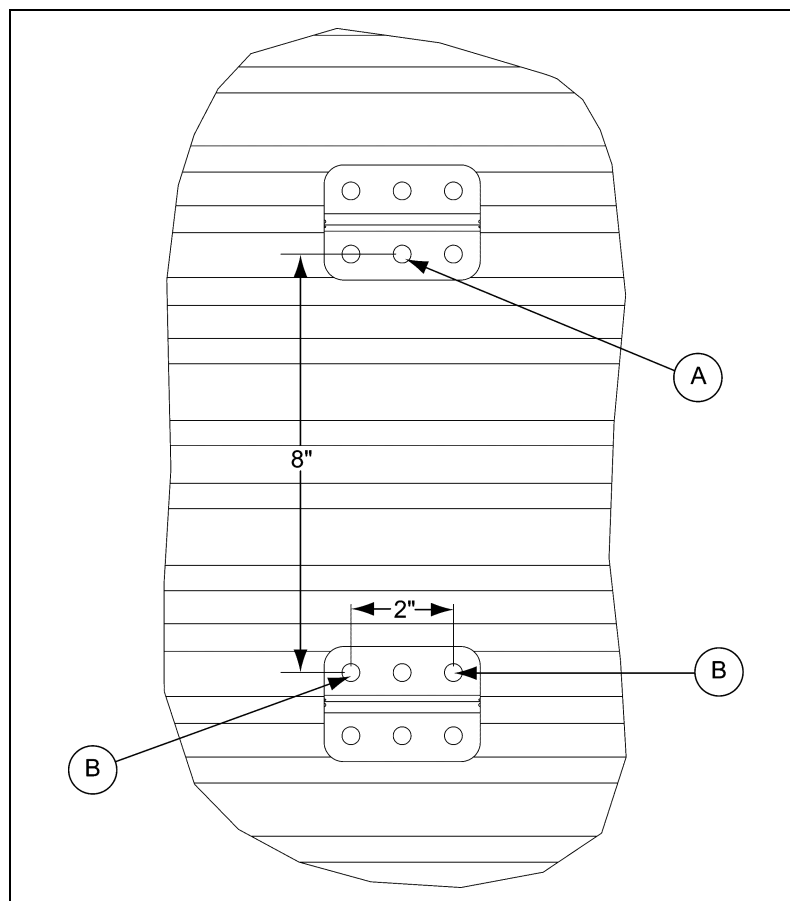

Figure 3A
6. Eight inches (8") vertically down from the previously drilled hole, drill two (2) holes that will accept one of the 5/16"-18 x 1-1/4" bin bolts with washer at the peak of a rib in the sidewall sheet. The holes should be spaced away from that top hole (A) one inch (1") to each side. *See Figure 3A* for visual explanation.